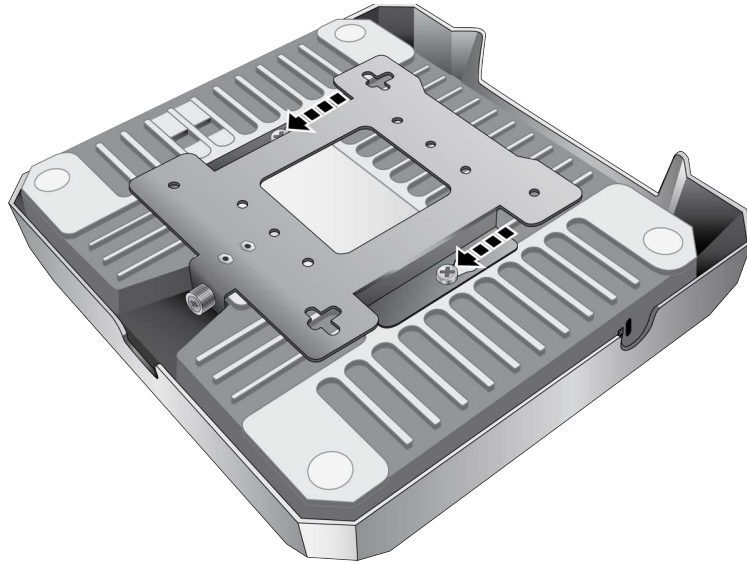

Figure 13. Attaching the Mounting Bracket on the Access Point
3. Make sure that the mounting bracket fits to the access point by sliding the bracket beneath the screws as shown in Figure 13.